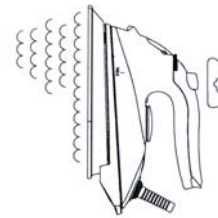

Fig. 5
4. For vertical steam, press the blast of steam button while holding the iron in a vertical position. See figure 5. The vertical steam function is useful for steaming curtains and drapes while still hanging.